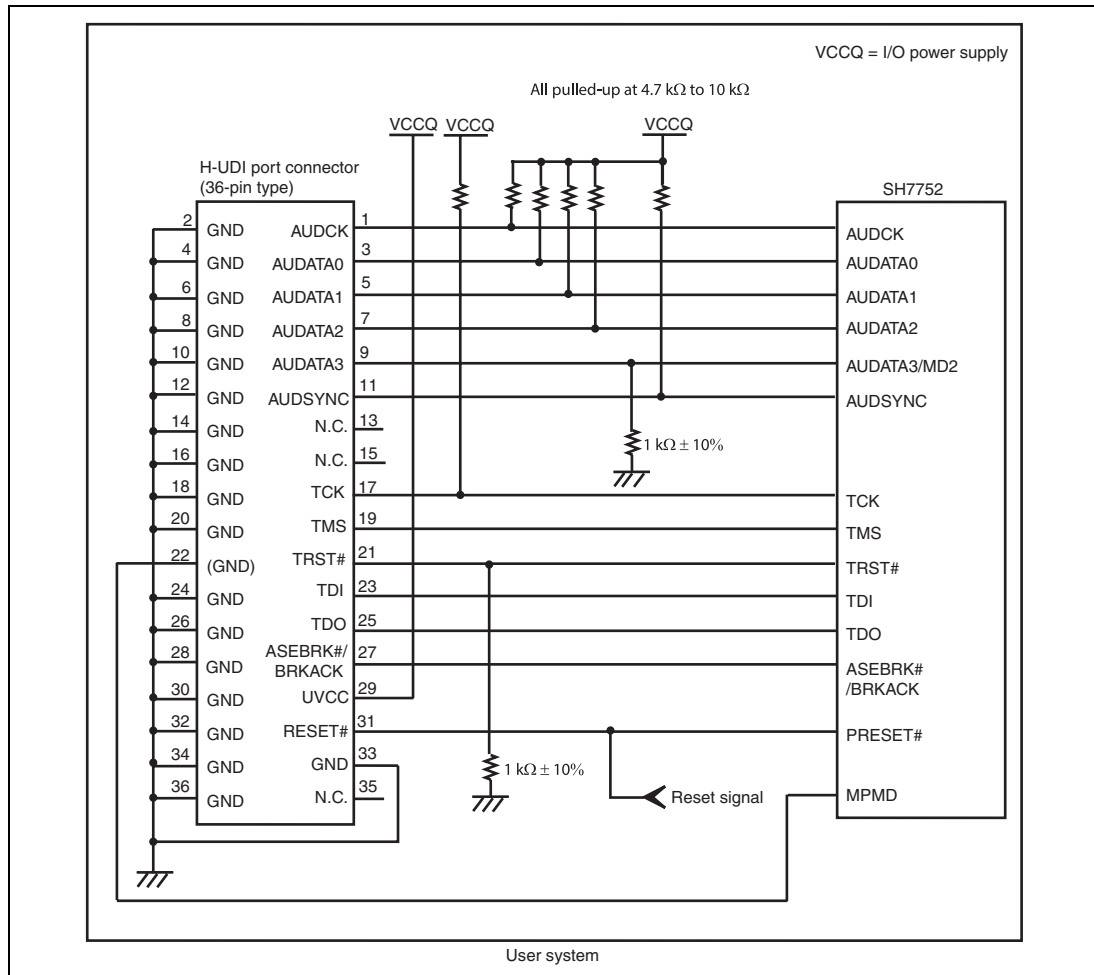

Figure 1.5 Recommended Circuit for Connection between the H-UDI Port Connector and MPU when the Emulator is in Use (36-Pin Type)
Figure 1.5 shows a recommended circuit for connection between the H-UDI and AUD port connectors (36 pins) and the MPU when the emulator is in use.
- (1) When the emulator is used: MPMD = 0
- (2) When the emulator is not used: MPMD = 1Figure 1.5 shows an example of circuits that allow the MPMD pin to be GND (0) whenever the emulator is connected by using the user system interface cable. When the MPMD pin is changed by switches, etc., ground pin 22. Do not connect this pin to the MPMD pin.
7. The resistance values shown in figure 1.5 are for reference.
When the circuit is connected as shown in figure 1.5, the switches of the emulator are set as SW2 = 1 and SW3 = 1. For details, refer to section 3.8, Setting the DIP Switches, in the SuperH™ Family E10A-USB Emulator User's Manual.